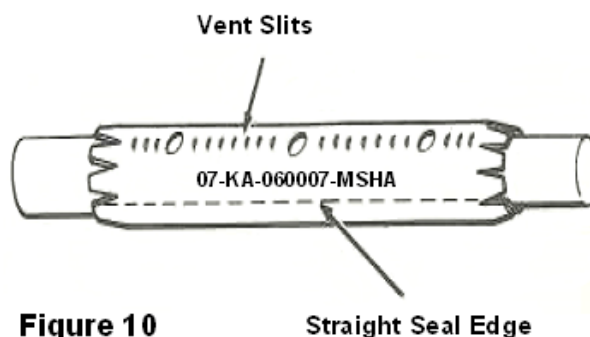

Figure 10
1. With cable straight, center mold over repair area with vent slits on top (printing on mold should be readable). Wrap snugly around, tucking one edge under. (Figure 10)